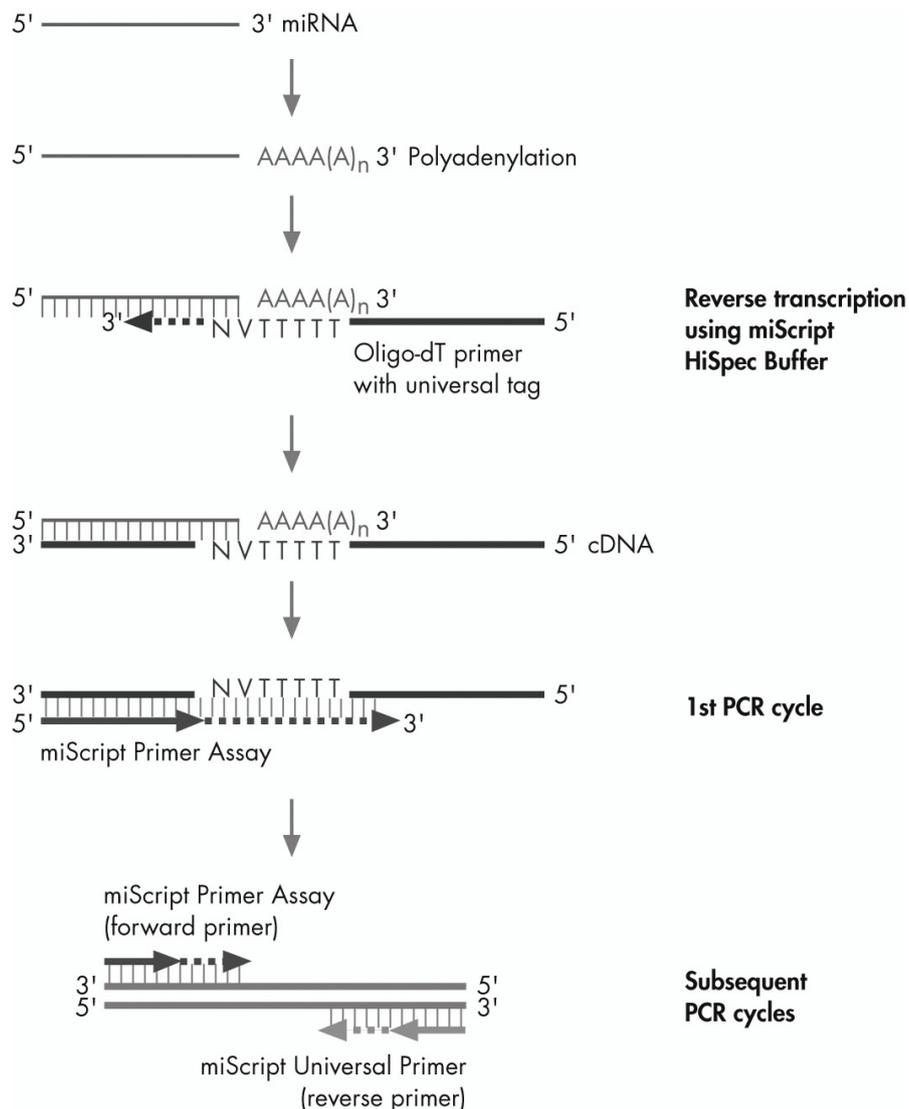

Figure 2. Selective conversion of mature miRNAs into cDNA in miScript HiSpec Buffer.
When reverse transcription reactions are performed using miScript HiSpec Buffer, mature miRNAs and certain small nucleolar RNAs and small nuclear RNAs (snoRNAs and snRNAs, see “Normalization controls”, page 15) are selectively converted into cDNA. Mature miRNAs are polyadenylated by poly(A) polymerase and reverse transcribed into cDNA using oligo-dT primers (Figure 2). Polyadenylation and reverse transcription are performed in parallel in the same tube. The oligo-dT primers have a 3' degenerate anchor and a universal tag sequence on the 5' end, allowing amplification of mature miRNA in the real-time PCR step. miScript Primer Assays, used in combination with the miScript SYBR Green PCR Kit, enable quantification of mature miRNA by real-